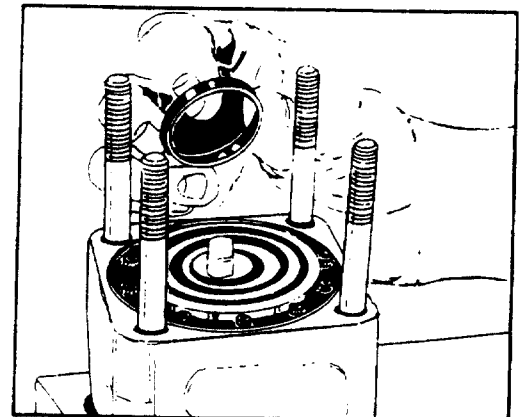

FIGURE 74.
26. Grease the new commutator seal (19) and place it into the commutator cover (20) seal groove. The rubber portion (the softer side) of the seal with the yellow mark must be placed into the seal groove. See figure 74.